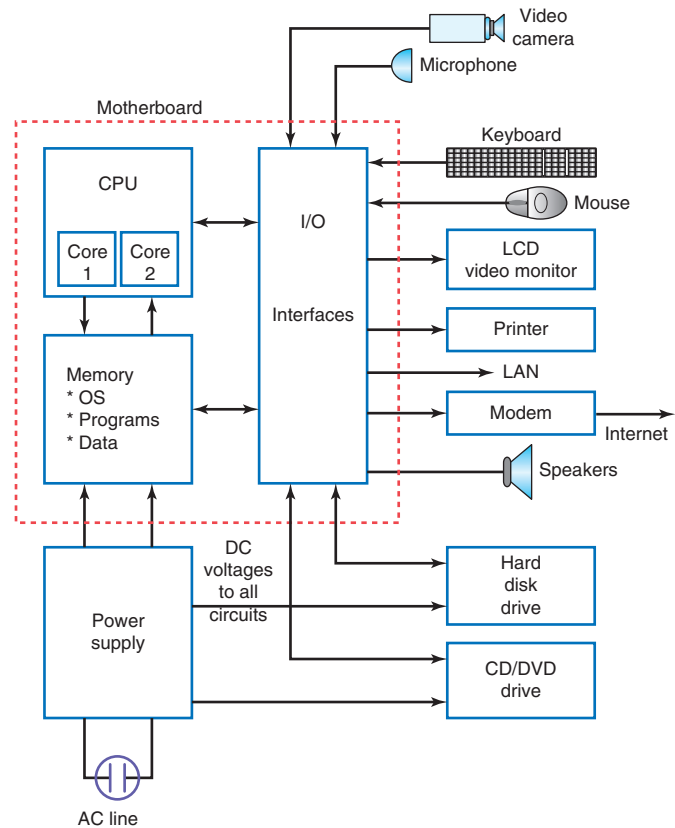

Figure 27-2 A personal computer as a system.
A good example of a small system is a personal computer (PC). See Fig. 27-2. A microprocessor known as a central processing unit (CPU) like an Intel Pentium or AMD Athlon is combined with memory ICs and input/output (I/O) circuits on a printed circuit board called the motherboard. Note that PCs usually have a dual-core processor, meaning two CPUs inside one microprocessor chip. The motherboard is then surrounded by other modules or subsystems. The power supply contains a printed circuit board with components that converts the ac line voltage into multiple dc voltages to power all the other circuits. The disk drives are made up of the mechanical subassemblies with their motors and other circuitry. All these are combined into a single package that may be a desktop or a laptop computer. The computer is then connected to an external LCD video display, keyboard, mouse, speakers, printer, modem, and/or local area network (LAN). The result is a computer system.